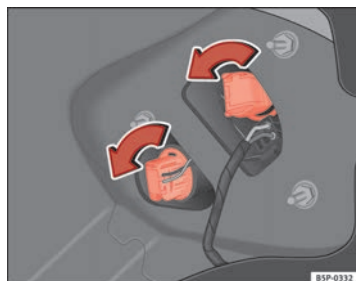

Fig. 194 Lights on vehicle body
- Turn the bulb holder to the left ⇒ Fig. 194.